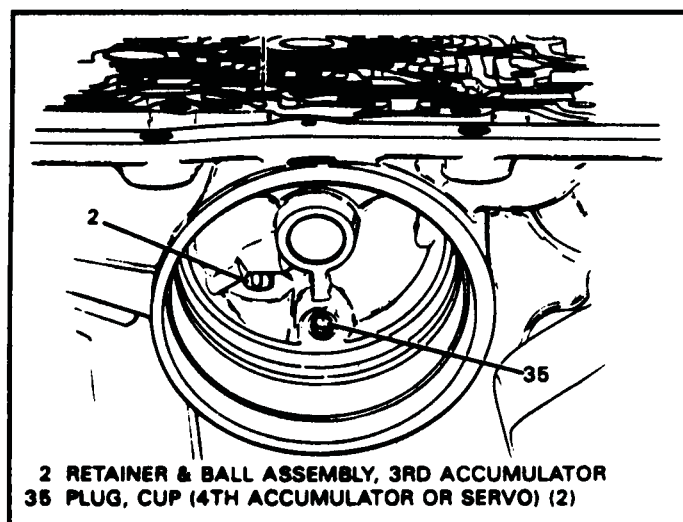

Figure 39
41. Inspect the 3rd accumulator ball capsule for the proper operation and ensure that ball is free. (See Figure 39)
43. Inspect for presence of orifice cup plug in the servo bore as shown in Figure 39.
6. When the capsule is seated properly, the oilfeed should be visible, as shown in Figure 39.